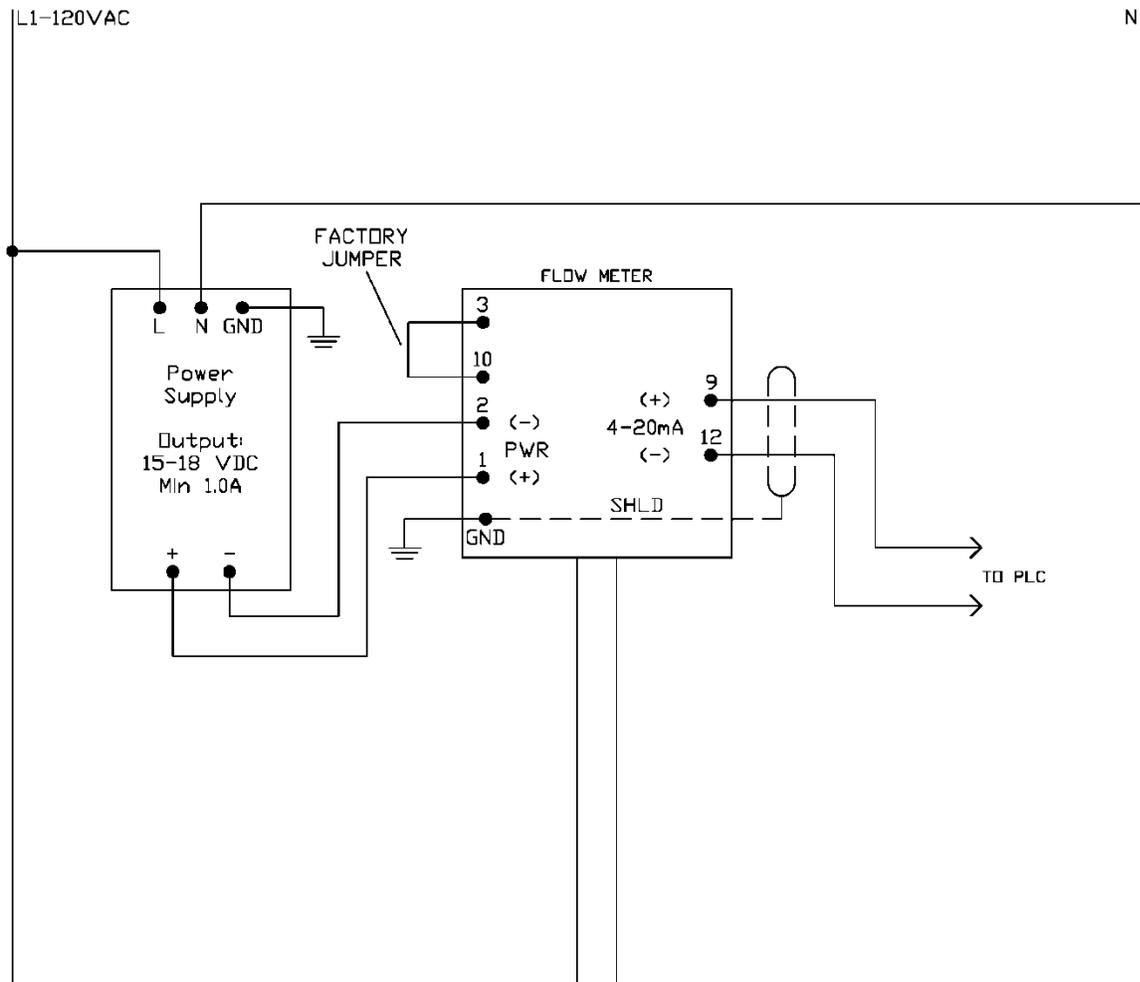

Figure 5: Flow Meter Kit Wiring
9. Wire the flow meter, 15 VDC power supply, and PLC as shown in Figure 5.